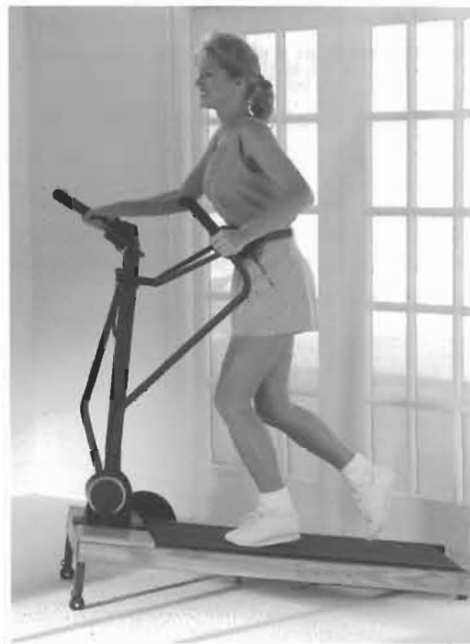

Figure 4
- 8. If you like, progress to jogging or running once you are comfortable with walking on the WalkFit Classic.** Try jogging or running while holding onto the poles in the center or rear locking positions. Add the upper-body exerciser when you feel ready to do so (Figure 4). Or, if you wish, lock the arm-exerciser poles in the forward position and swing your arms naturally at your sides as you jog or run.